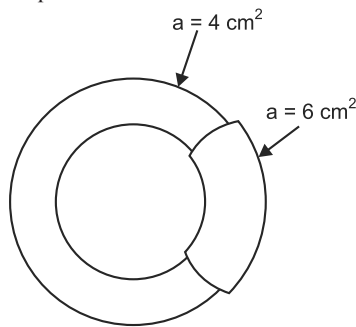

Fig. 8.20
7. The uneven ring-shaped core shown in Fig. 8.20 has  $\mu_r = 1000$  and the flux density in the thicker section is to be 0.75 T. If the current through a coil wound on the core is to be 500 mA, determine number of coil turns required. [567]